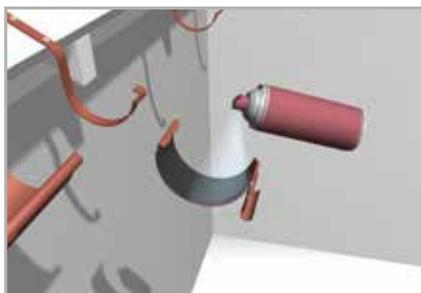

Fig. 5
- 1.10 Before commencing installation of the Galeco STAL System, lubricate the fitting seals with a lubricant to ensure free gutter movement when temperature changes **(Fig. 5)**